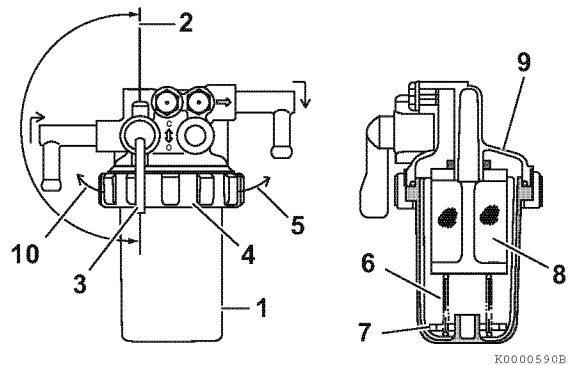

Figure 5-14
1. Position an approved container under the cup (Figure 5-14, (1)) of the fuel filter/water separator to collect the contaminants.
2. Close (Figure 5-14, (2)) the fuel cock (Figure 5-14, (3)).
3. Turn the retaining ring (Figure 5-14, (4)) to the left (Figure 5-14, (10)).
4. Carefully remove the cup (**Figure 5-14, (1)**) and pour the fuel into an approved container and dispose of properly. Hold the bottom of the cup with a shop towel to prevent the fuel from dripping. Wipe up any spills immediately.
5. Keep the retaining spring (**Figure 5-14, (6)**) and float (**Figure 5-14, (7)**) handy for reassembly.
6. Remove the element (**Figure 5-14, (8)**) by pulling it down.
10. Put the float (**Figure 5-14, (7)**) and retaining spring (**Figure 5-14, (6)**) inside the cup.
11. Reinstall the cup to the mounting flange (**Figure 5-14, (9)**) and turn the retaining ring (**Figure 5-14, (4)**) to the right (**Figure 5-14, (5)**). Hand-tighten only.
12. Open the fuel cock (**Figure 5-14, (3)**).